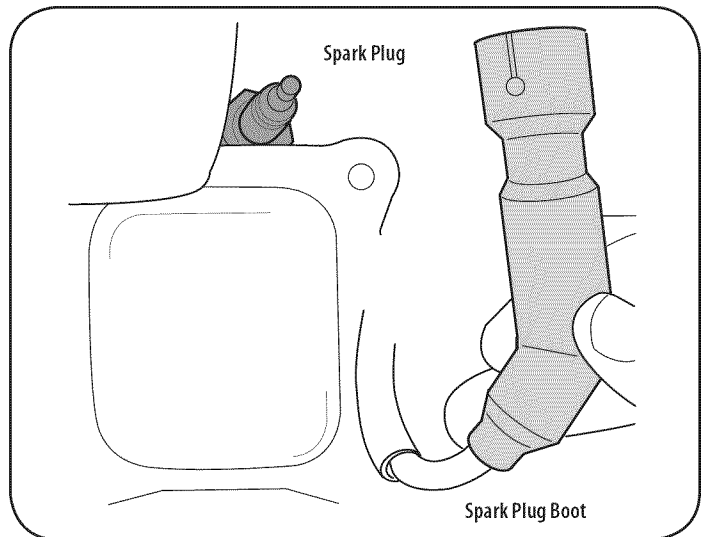

Figure 15
1. Remove the spark plug boot and use a spark plug wrench to remove the plug. See Figure 15.